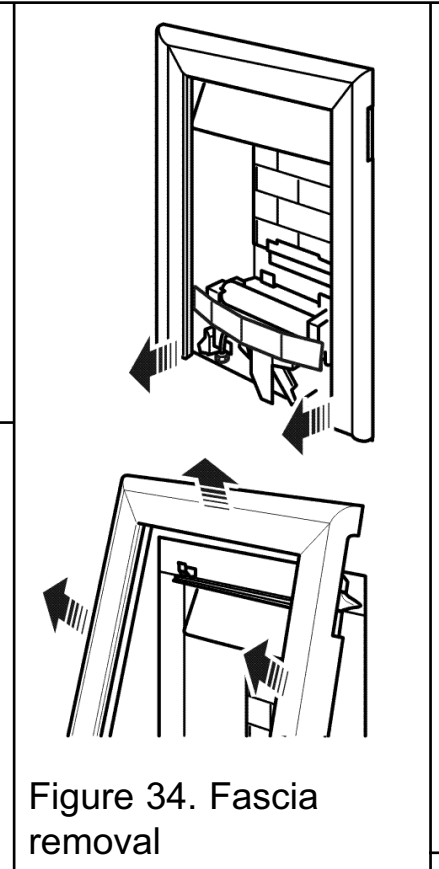

Figure 34. Fascia removal
4. **Make sure that the control linking bar has been detached (See point 2).** Carefully lift the fascia upward to clear the upper retaining brackets on the convection box (See figure 34). Pull the fascia clear and place carefully aside.